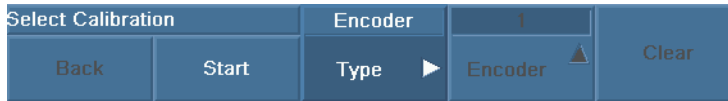

Figure 10-12 The Select Calibration step Encoder parameter
7. *Optional:* When a probe is equipped with two active encoders, select the encoder to calibrate. Probes for raster scans have two encoders. Choose **Encoder = 1** or **2** (see Figure 10-12 on page 192).